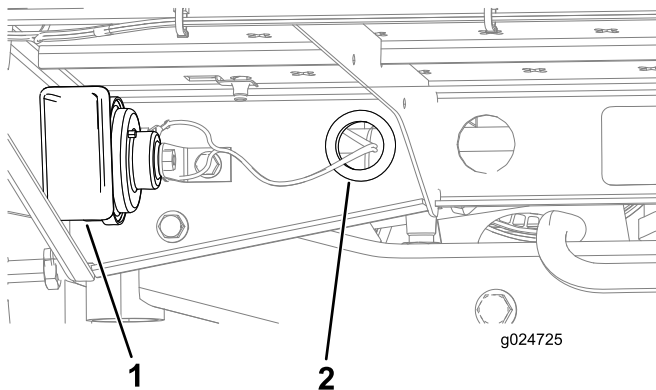

Figure 30
1. Route the wire harness through the grommet at the hole in the rear-angle platform to the horn (Figure 30).